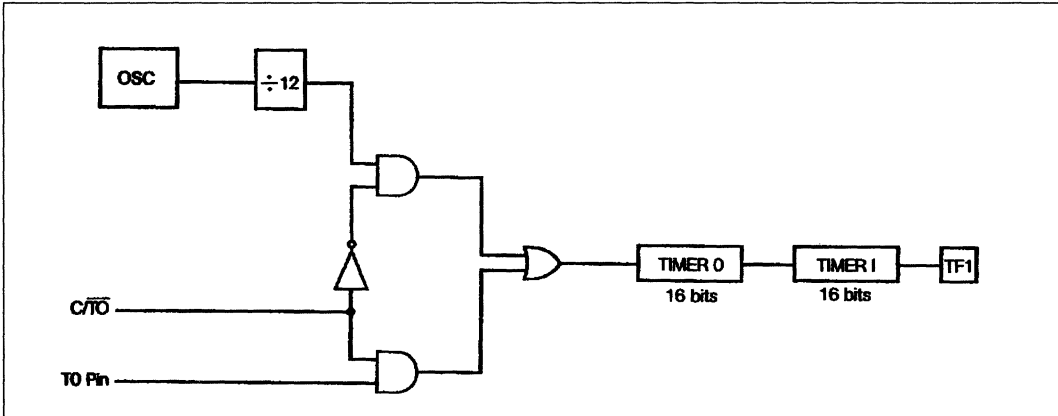

Figure 16 : 32-bit Timer/Counter.
- T32 = 1 enables access to this mode. As show in figure 16, this 32-bit mode consists in cascading TIMER 0 for the LSBs and TIMER 1 for the MSBs.